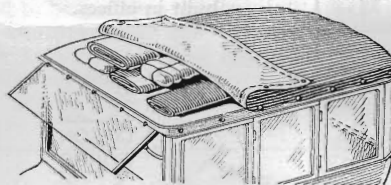

Fig. 3. The top deck of a closed car converted into a fine luggage compartment by fitting with a loose cover provided with snaps
**A**S SHOWN in Fig. 3, the top of an inclosed auto body can be used as a fine luggage compartment that will hold extra coats, blankets or parcels and preserve them from dirt and rain. It is particularly useful for motor campers and long distance tourists.